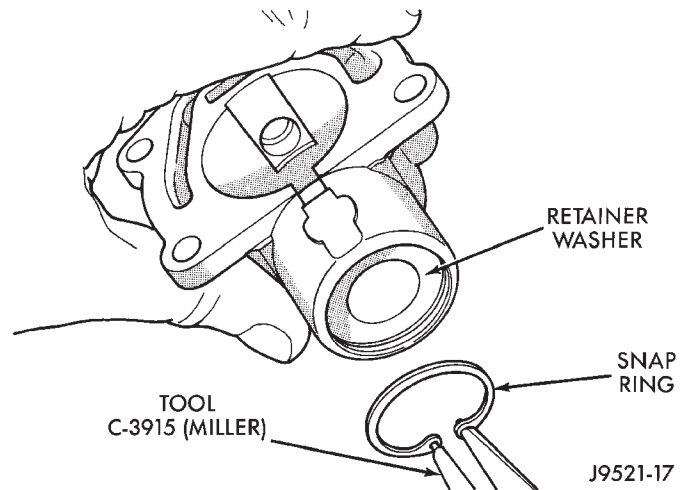

Fig. 40 Governor Weight Retaining Snap Ring And Washer Removal
(3) Remove snap ring and retainer washer that secure governor weight assembly in body. Use Miller C-3915 Internal Pliers to remove snap ring (Fig. 40).
(4) Remove governor weight assembly from governor body bore.
(5) On 30RH, disassemble **two-stage** governor weight as follows: